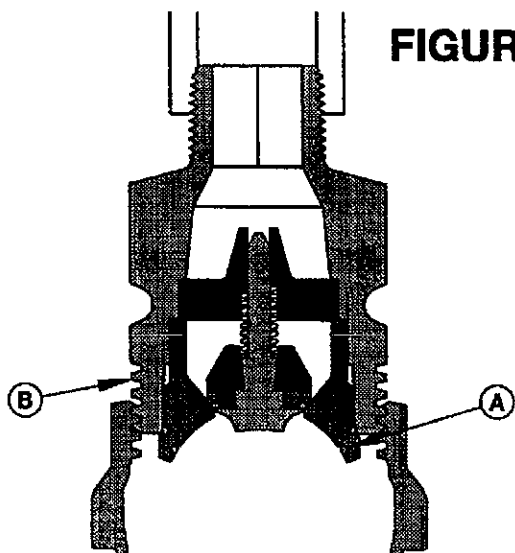

FIGURE 6
3. Screw the catch nut down (off) until the internal threads are slightly exposed, see **B** in **figure 6**.
6. Inspect for the presence of the sealing O-rings **A** in **Figure 6** If it is missing or cut, replace it.